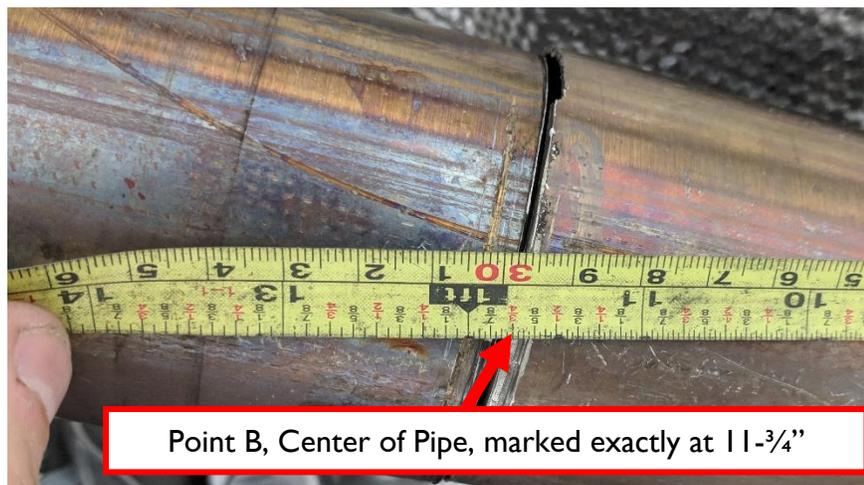

Figure 4
- 2.2 The center of the pipe on Point B should resemble Figure 4 as shown below, with the tape measure marking the point at exactly $11\text{-}\frac{3}{4}$ ".